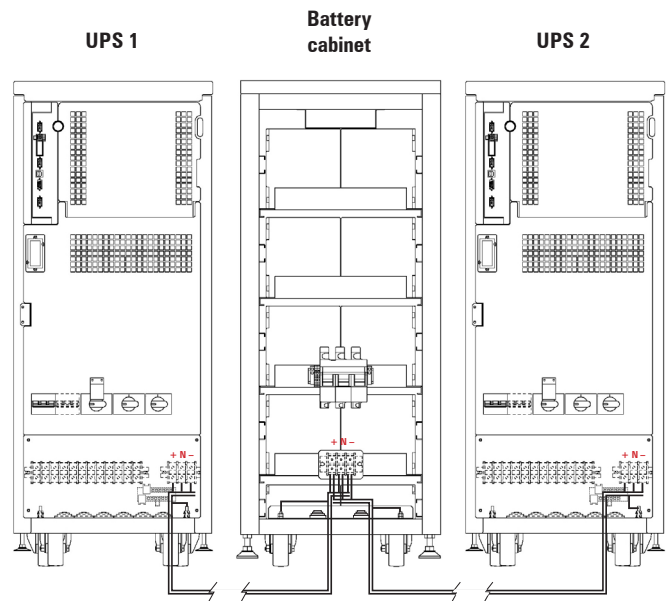

Fig. 35. Example of connection of two UPSs in parallel and a common battery set.
- Also, as an option, there is another structure, a common battery set for parallel system of two equipments fitted in a cabinet or rack. The connection of each UPS with the battery cabinet will be done with the supplied cable bundle, by connecting one side to terminals (X11), (X23), (X12) and (X10) of UPS and the other one to terminals (X47), (X49), (X48) and (X10) of battery module, always respecting the stated polarity on the labelling of each element and this manual, as well as the colour of the cables (red for positive, black for negative, blue for middle tap (N) and green-yellow for earth bonding), see Fig. 35.